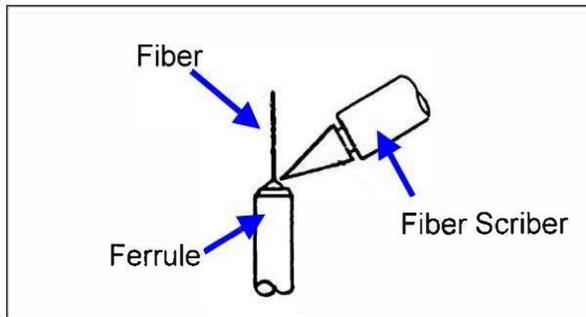

Fig 27
Step 12 Remove the fixture from the connector after epoxy is fully cured. Use a fiber scribe to cleave the protruded fiber slightly at the point where the fiber and epoxy bead meet. Gently push the tip of fiber until the fiber separates. See Fig. 27.